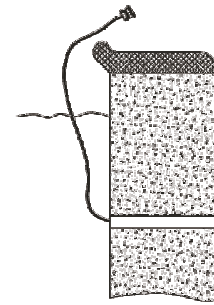

Figure 3
5. When installing underwater lights, be parpare long enough cable(Min 1m) to ensure that maintenance and replacement lamp can be out of the water. (Figure 3)